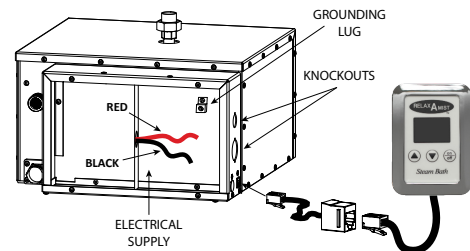

Fig. 6
- Connect the two copper wires from the power supply, one to each of the red and black Relax-A-Mist® wires inside the electrical box. See **Fig. 6**.